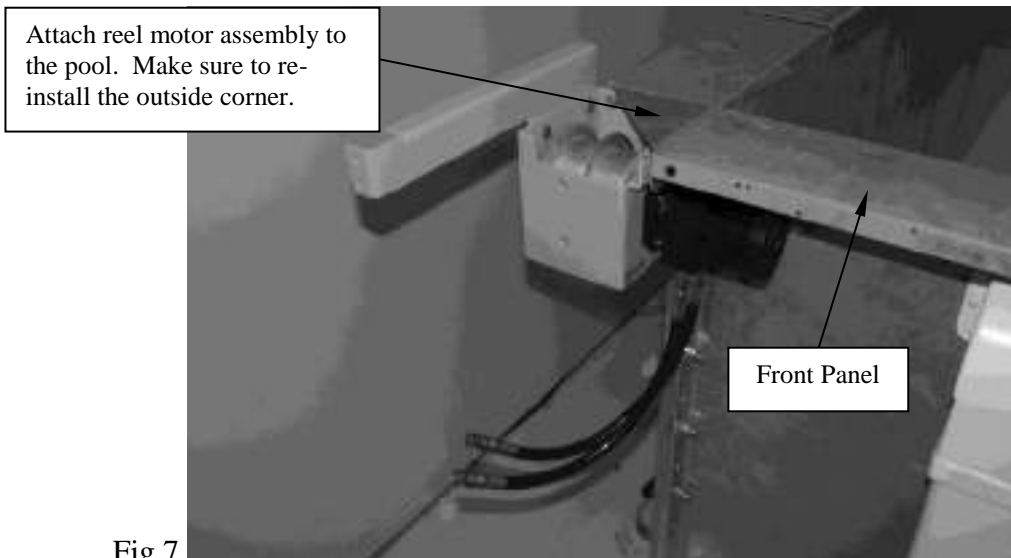

Fig 7
4. Remove the outside corner angle from the left side of the front panel and then remove the gusset from the left side of the front panel. Lift the reel motor assembly into place so that the motor is seated under the top flange. Place the outside corner back into place so that it sits between the panels and the motor assembly and replace the panel bolts but do not tighten yet. (Fig 7)